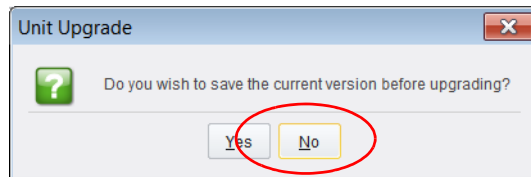

Fig. 8-10: Unit Upgrade Dialog - Click NO
- 7 Click **No** in response to the question in the dialog (Figure 8-10).
Note: (Figure 8-10) "Do you wish to save the current version before upgrading?"
Click **No** in response to the message box shown in Figure 8-10.